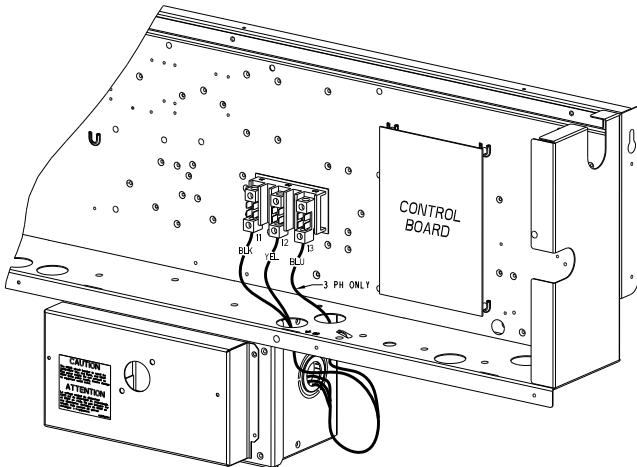

Fig. 30 – HACR Enclosure Location
1. Remove the control box access panel. The HACR enclosure is located below the control box (see Fig. 30).